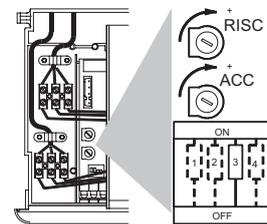

Figure 15.8
- To carry out the adjustment move the function selector 3 to the OFF position (Fig. 15.8) and use the device (ACC).
- After the adjustment operations bring the selector 3 of figure 15.8 back to the normal position (ON).